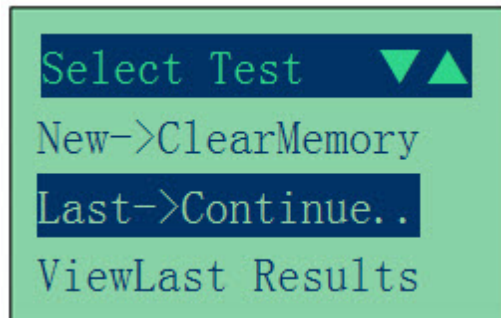

Figure 67
2. It will run through a self-test and when completed it displays the Main Menu as shown: (Fig. 67)